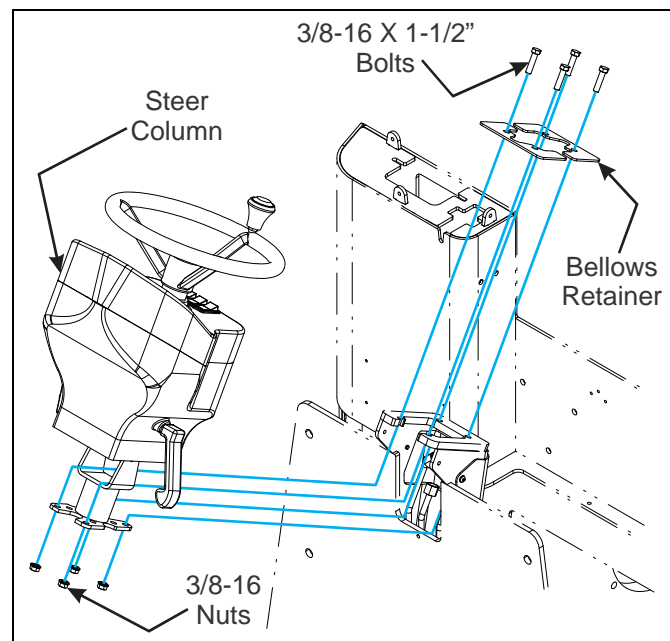

Figure 3-29: Steer Column Assembly
2. Remove the lower dash cover weldment. See Figure 3-29.
7. Remove the four bolts and hardware securing the steering column console to the bellows retainer plate. See Figure 3-29.